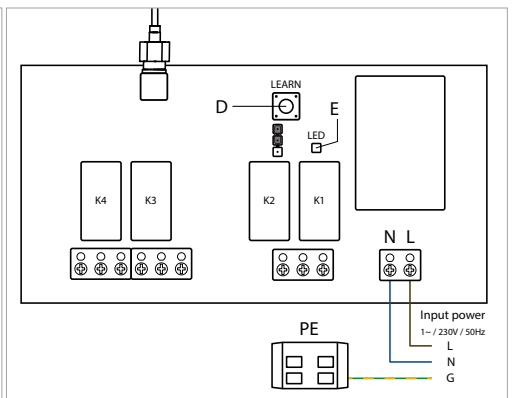

Fig. 4.4 MHR power and receiver PCB
- Power the MHR motor and wireless receiver by wiring 1-phase/230V/60Hz or 1-phase/120V/60Hz input power to the PCB as seen in figure 4.4.
- Close the MHR side panel (A) by pushing it closed and turning the square key.
By default buttons 1 and \blacktriangle are paired to relay 1 (K1, fig. 4.4), buttons 2 and \blacktriangledown to relay 2 (K2, fig. 4.4).
Refer to figure 4.4.
To pair a remote control transmitter follow the steps and refer to fig. 4.4.